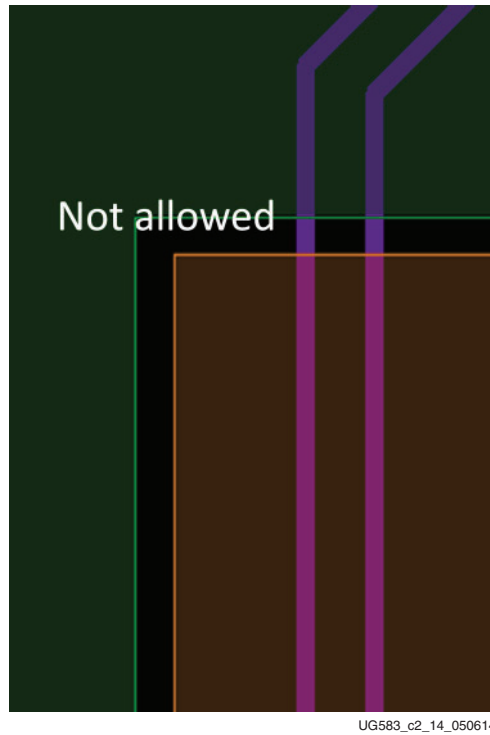

Figure 2-9: Signal Routing Over Reference Plane Split
16. Avoid routing over reference plane splits (Figure 2-9).